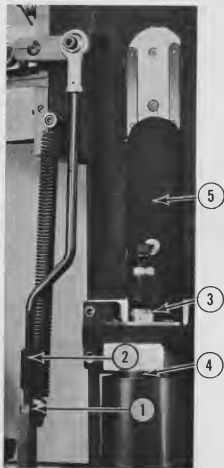

FIGURE 3
Loosen the lock nut (1) and turn adjusting screw (2) up or down to obtain approximately  $3/16"-1/4"$  movement during the casting cycle. (See Figures 3 and 4.)